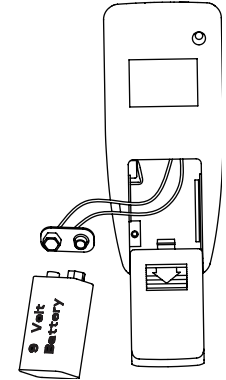

Fig. 25
Step 2. Remove remote battery door, connect 9V battery (included) with plug pressing the battery inside and replace the battery door. (Fig. 25)